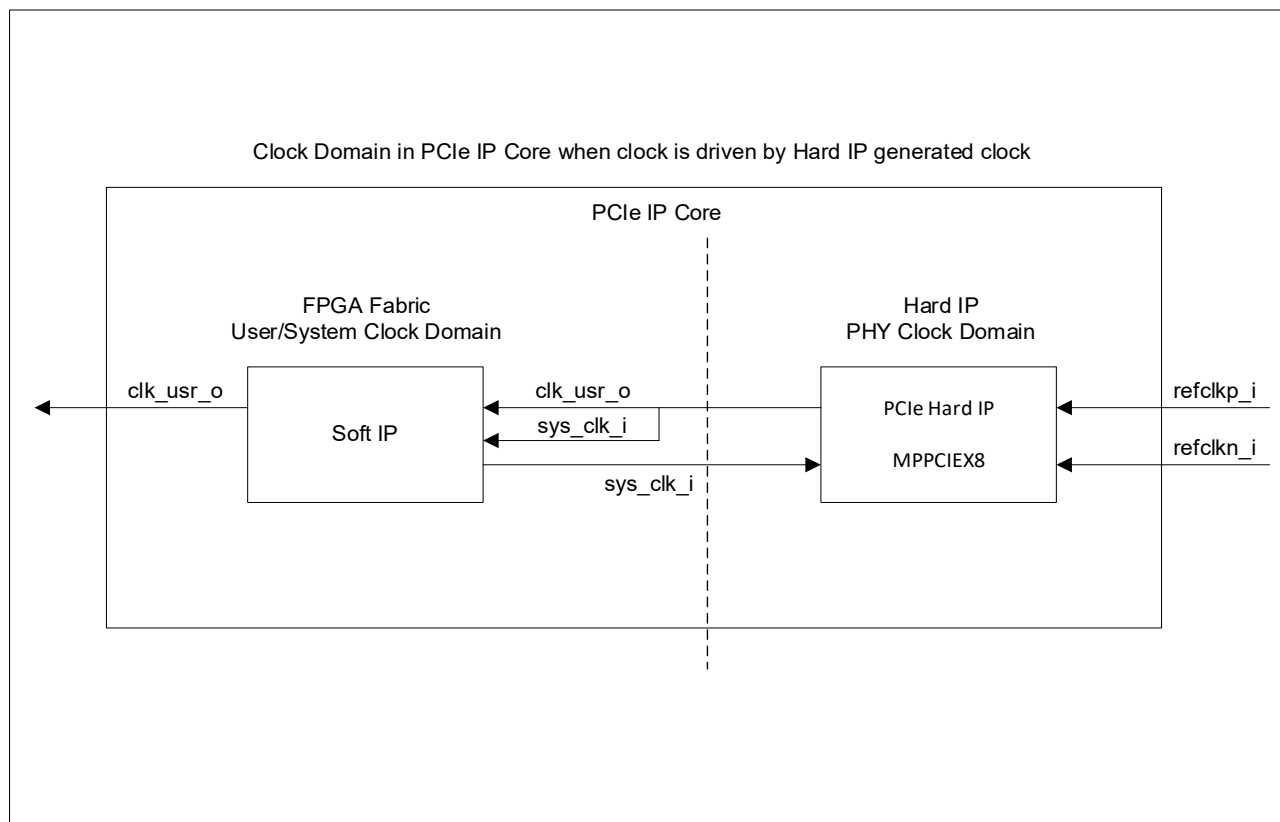

Figure 2.5. PCIe IP Clock Domain Block Diagram for TLP Interface
The PCIe x8 IP includes the following clock domains. The *sys_clk_i* signal is generated during the PLL IP instantiation. For the TLP interface, you can connect *clk_usr_o* back to the *sys_clk_i*, as shown in Figure 2.5.
- For the TLP interface variants, you can choose to connect *clk_usr_o* back to the *sys_clk_i* as shown in Figure 2.5.